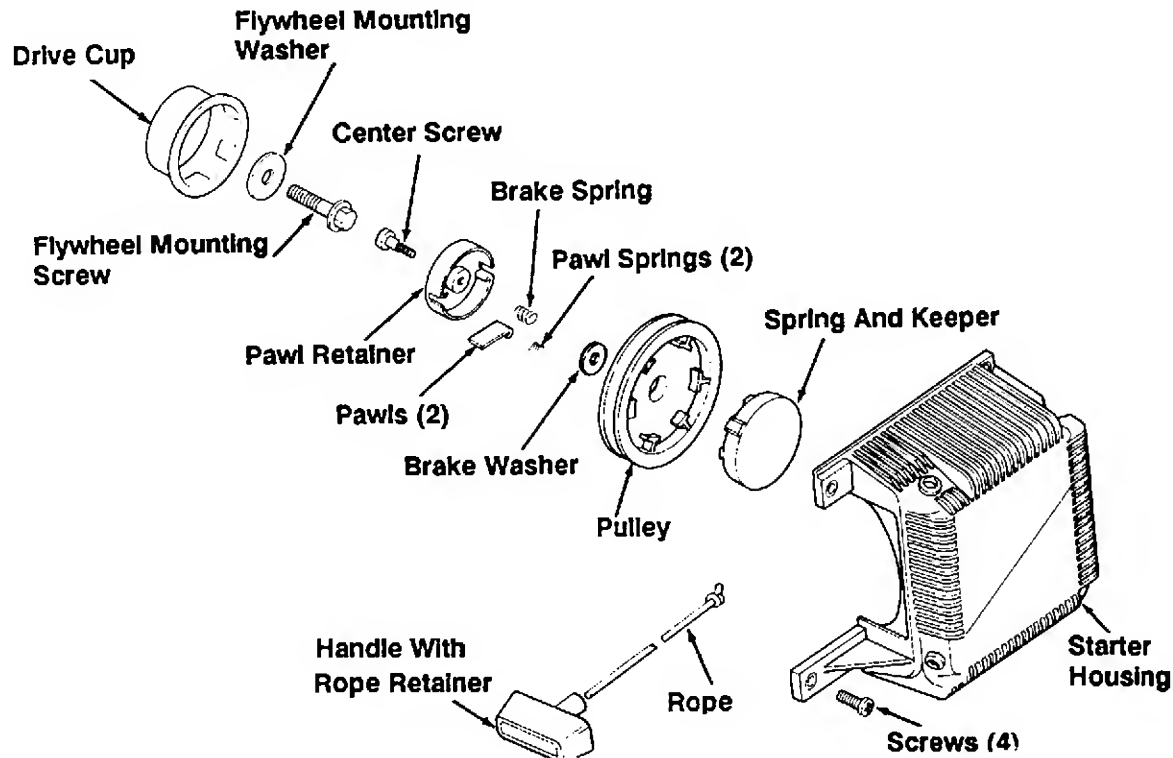

Figure 7-1. Retractable Starter — Exploded View.
2. Replace all worn or damaged components. Use only genuine Kohler replacement parts as specified in the Parts Manual. All components shown in Figure 7-1 are available as service parts. Do not use nonstandard parts.